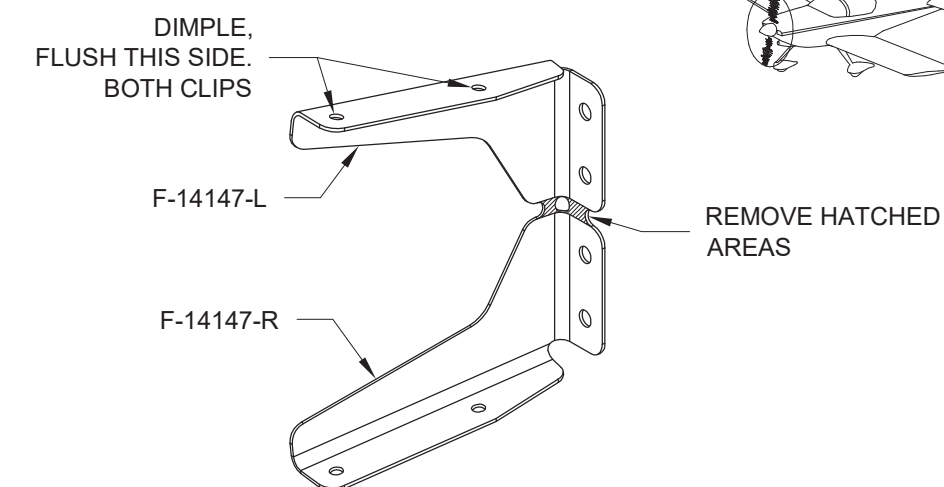

FIGURE 4: F-14147 STIFFENER CLIP
Step 4: Separate the F-14147 Stiffener Clip by removing the hatched areas shown in Figure 4.